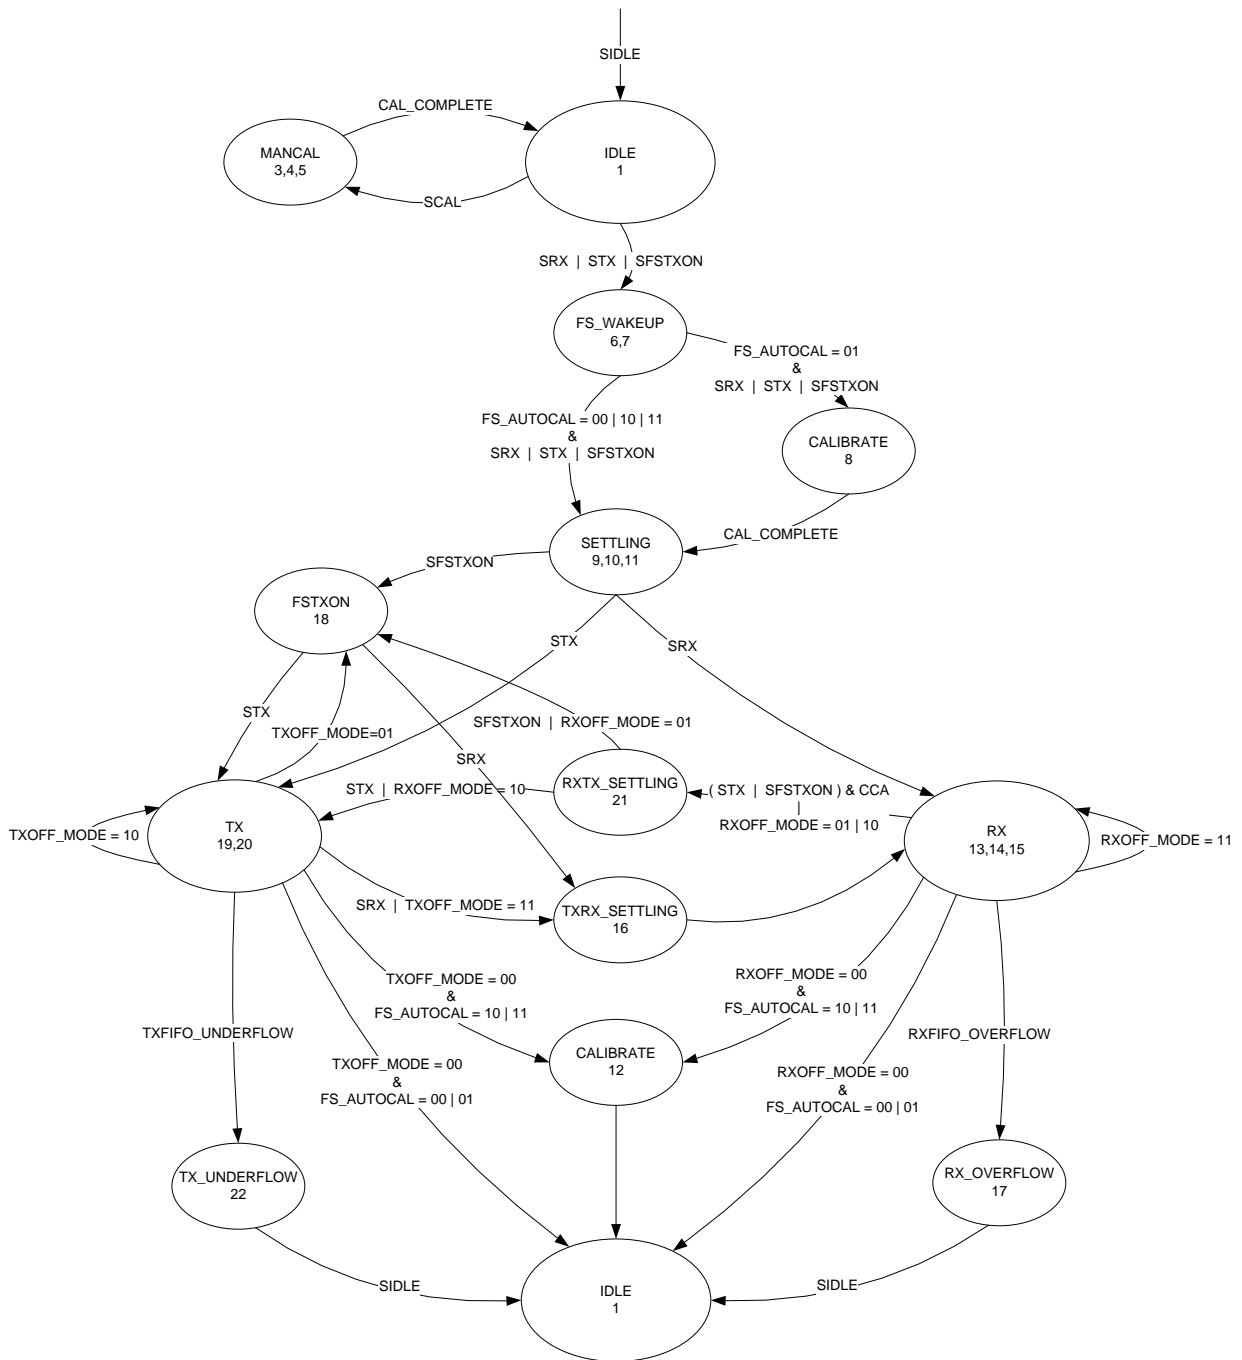

**Figure 53: General Principle of Matrix Interleaving**
**CC2510Fx/CC2511Fx** employs matrix interleaving, which is illustrated in Figure 53. The on-chip interleaving and de-interleaving buffers are 4 x 4 matrices. In the transmitter, the data bits from the rate  $\frac{1}{2}$  convolutional coder are written into the rows of the matrix, whereas the bit sequence to be transmitted is read from the columns of the matrix. Conversely, in the receiver, the received symbols are written into the rows of the matrix, whereas the data passed onto the convolutional decoder is read from the columns of the matrix.